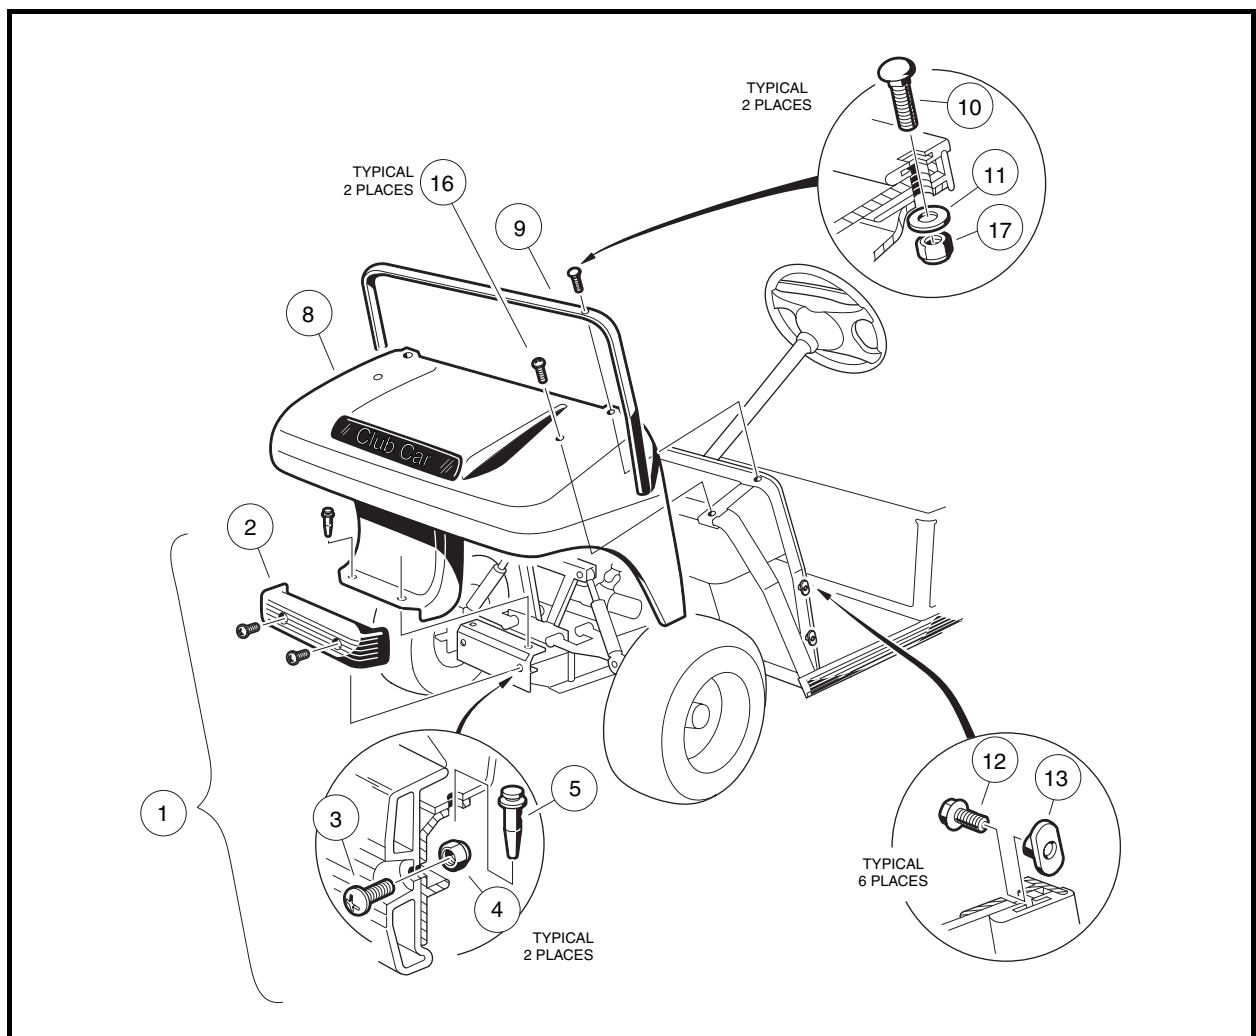

Figure 4-1 Front Body Assembly
3. Remove screws (3) and lock nuts (4) and lift front bumper (2) from vehicle frame (**Figure 4-1, Page 4-2**).
4. Remove blind rivets (5).
5. Remove carriage bolts (10), lock nuts (17), and washers (11) from front body trim. Remove screws (16) from top of front body.
6. Loosen, but do not remove, screws (12) holding front body trim against front body.
7. Pull front body (8) from under trim (9) and remove the body from the vehicle.
1. Install front body (8) under trim (9), align holes and finger-tighten screws (16) holding front body against frame (**Figure 4-1, Page 4-2**).
2. Install carriage bolts (10), washers (11) and lock nuts (17) onto front body trim. Tighten bolts to 11 ft-lb (14.9 N·m). Tighten screws (16) to 20 in-lb (2.3 N·m).
**NOTE:** If installing a new front body, two 5/16-inch holes must be drilled after the body has been placed on the vehicle. Use the body trim (9) as a guide for drilling the holes (**Figure 4-1, Page 4-2**).
3. Tighten screws (12) holding front body trim against front body to 17 in-lb (1.9 N·m).
5. Install push-type blind rivets (5) that secure lower part of front body to frame.
6. Install front bumper onto vehicle with screws (3) and lock nuts (4). Tighten to 65 in-lb (7.3 N·m).